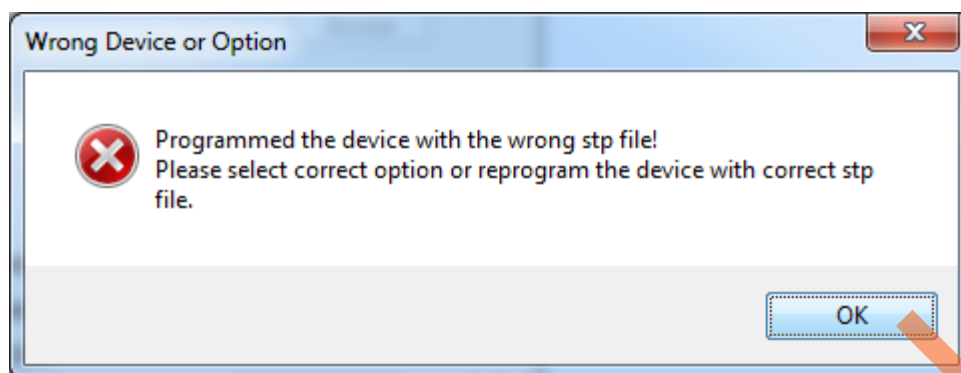

Figure 8. Wrong Option
9. If the SmartFusion2 SoC FPGA device is programmed with a STAPL file in which MDDR is not configured for SDR memory then it shows an error message, as shown in Figure 8.